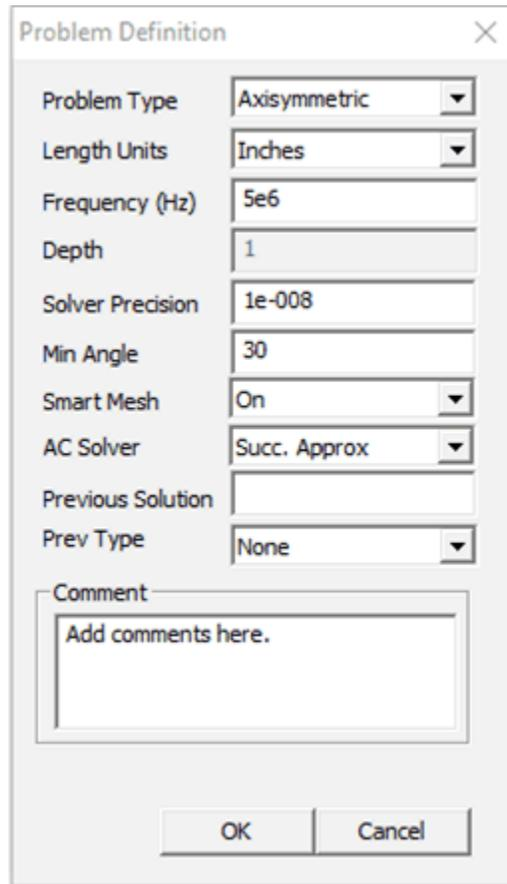

Figure 2-4. Problem Definition Dialogue Box
- a. Navigate to the **Problem** menu shown in Figure 2-4.